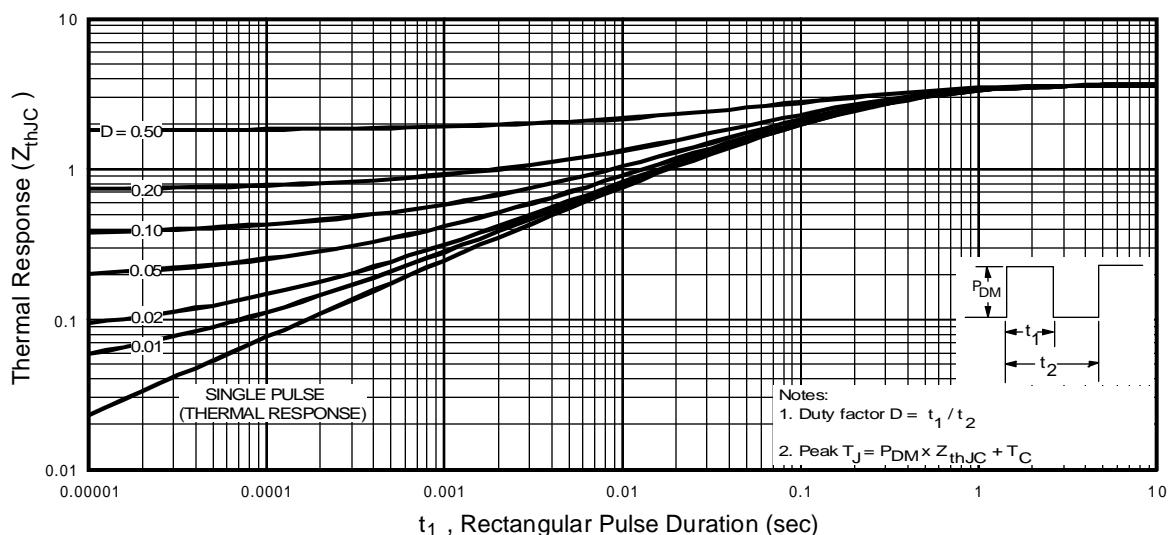

Fig 11. Maximum Effective Transient Thermal Impedance, Junction-to-Case
① Repetitive rating; pulse width limited by max. junction temperature. (See fig. 11)
② $V_{\text{DD}} = 25\text{V}$, starting $T_J = 25^\circ\text{C}$, $L = 530\mu\text{H}$